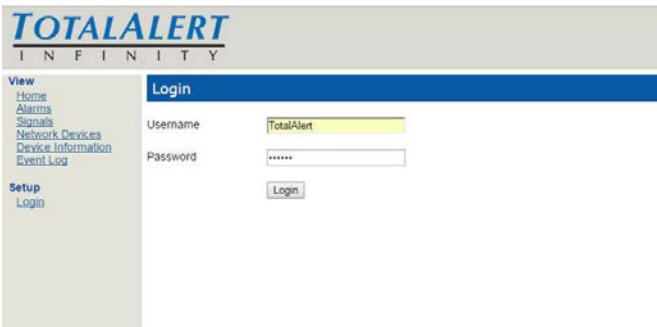

Figure 259
2. The web browser will request a username and password (See Figure 259).